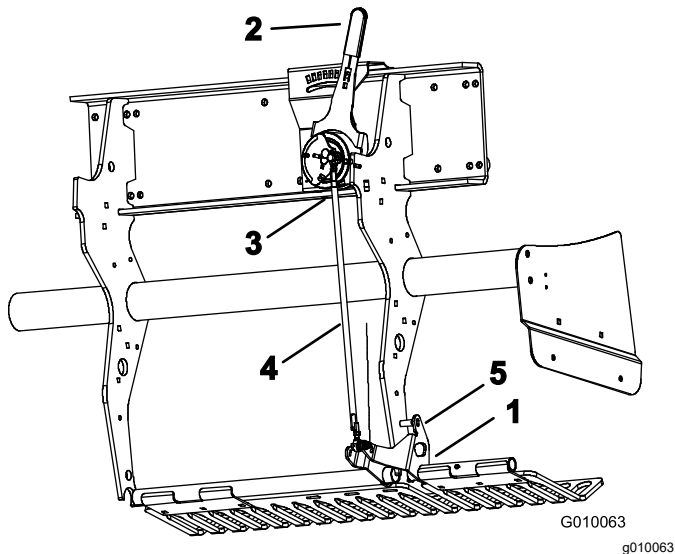

Figure 59
2. Rotate the left turf guard mounting bracket (Figure 59) up until you can insert a locking pin, such as an 8 mm (5/16 in ) drill rod or bolt, between the bracket and the depth setting tube welded to the frame.
3. Move the tine depth lever (Figure 59) to the H setting (deepest).
4. Disconnect the outboard ball switch (Figure 59) from the wire harness (Head–Low switch).
5. Loosen the jam nuts (left and right) on the depth adjustment tie rod (Figure 59).